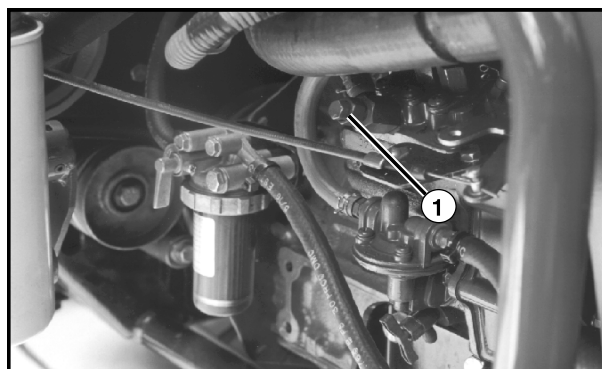

Figure 6.5.2
4. Open the air vent on top of the injection pump, open air vent only when engine is NOT running (See Fig. 6.5.2).